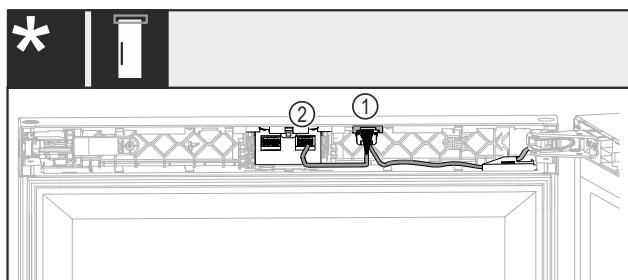

Fig. 35 Without lock or with mechanical lock
- ▶ Insert the plug with both cables Fig. 35 (1) into the guide.
- ▶ Snap the plug with one cable Fig. 35 (2) into the right harness.